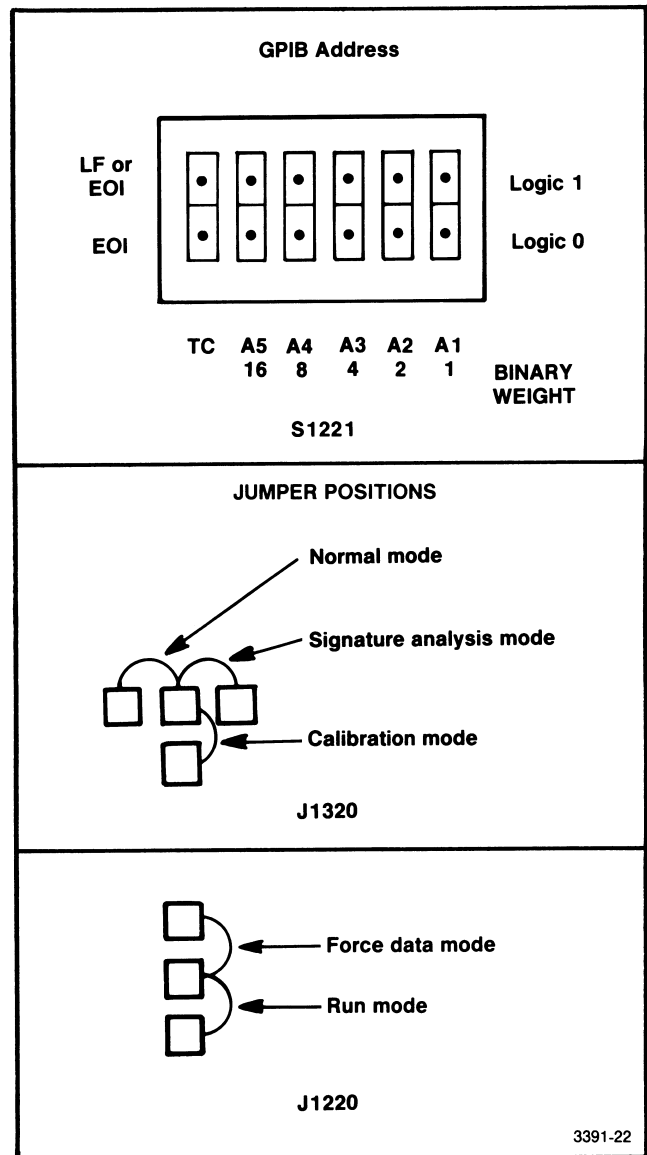

Fig. 6-1. Address switch and jumpers.
- i. Replace the jumper J1320 in the normal position. See Fig. 6-1.
The address switch for the PS 5010 is located on the CPU board. This board is the leftmost board when facing the front panel of the instrument. The address switch is factory set for address 22. No secondary address capability exists. Fig. 6-1 shows the switch. The leftmost toggle selects the message delimiters the PS 5010 responds to. These delimiters are either LF (line feed) and EOI (end of identify) or EOI only. Switches 1 through 5 can set any binary address from 0 to 31. An address setting of 31 causes the PS 5010 to ignore GPIB commands.
Also located on the CPU board are two jumpers. The mode jumper J1320 has three positions. See Fig. 6-1. This jumper should be in the Normal mode for instrument operation. Place the jumper in the Signature analysis mode or the Calibration mode when instructed to do so in this manual. The normal operating position for J1220 is the Run mode position. The Force data position is only used in the signature analysis mode.